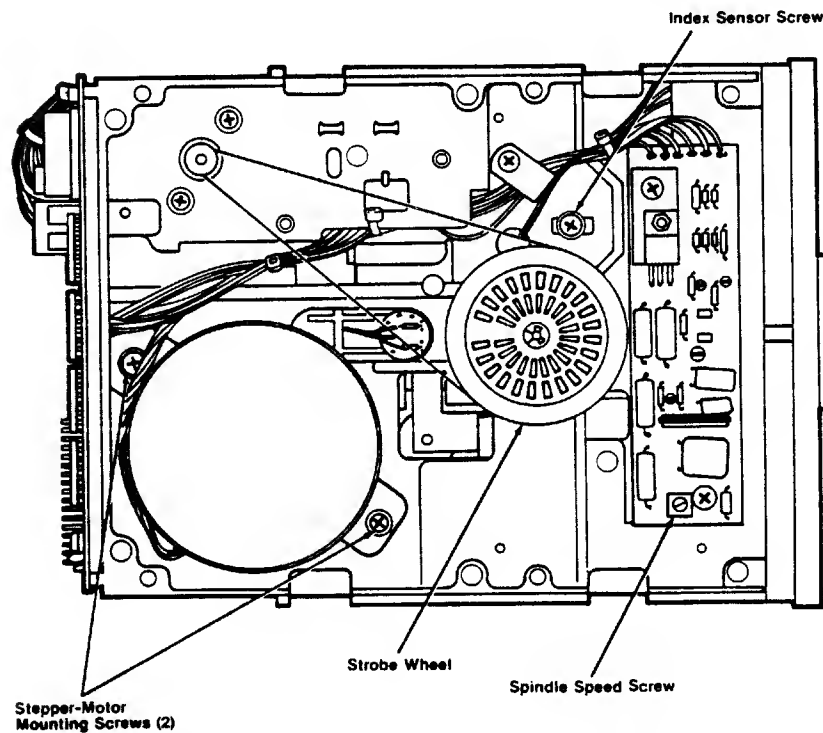

FIGURE 8-53. ALPS DRIVE BOTTOM VIEW
- 8.3.2.4 Locate variable resistor **VR1** on the spindle-motor control board. The small screw on **VR1** is the spindle-speed adjustment screw (Figure 8-53).
- 8.3.2.10 The strobe wheel on the bottom of the drive has a black-and-white pattern. Position the drive with strobe wheel facing technician (Figure 8-53).
- 8.3.2.12 Slowly turn the spindle-speed adjustment screw (Figure 8-53) until the strobe effect stops.
- 8.3.3.7 If cat-eye patterns are NOT within 80% of each other, loosen two (2) stepper motor mounting screws (Figure 8-53).